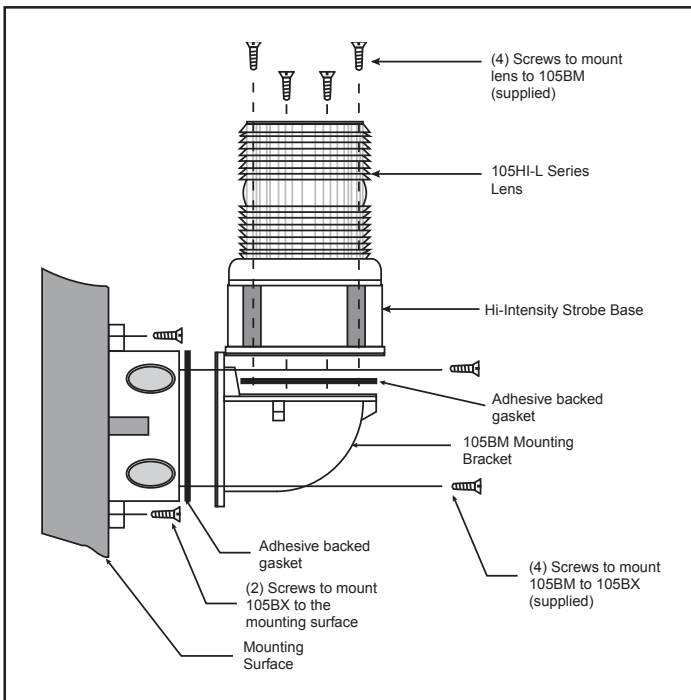

Figure 1. Mounting Cat. No. 105BM Mounting Bracket
- b. **Cat. No. 105BM:** Using the four supplied screws, secure the mounting bracket to Cat. No. 105BX outlet box attachment as shown in Figure 1. Attach the adhesive backed gasket to the top of the 105BM mounting bracket, being careful to line up the holes in the gasket with the mounting holes in the outlet box.
- NOTE:** It is not necessary to remove the lens from the Hi-Intensity Strobe Base to install the 105DHIST series beacons. See Figures 1, 3 or 4.
- a. **Cat. No. 105BX:** Screw the outlet box attachment to the mounting surface (Figure 1) using two screws (not supplied) suitable for the surface. Attach the adhesive backed gasket to the top of the 105BX mounting box, being careful to line up the holes in the gasket with the mounting holes in the outlet box.